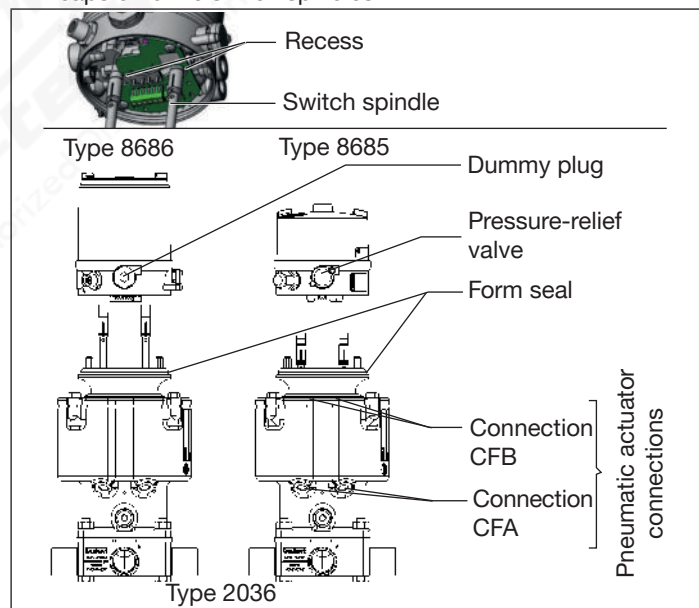

Fig. 10: Assembly of feedback head / control head
These operating instructions describe the installation of feedback head Type 8685 and control head Type 8686 to a valve Type 2036 with an actuator. The information also applies to Type 2036 valves with two actuators or Type 2034 valve clusters when using Robolux components. The information here also applies if the actuator, adapter kit and feedback/control head are in the position shown in “Fig. 10”
- ▶ For actuators with control function B (CFB, NO), the lower end position must be approached before the feedback head / control head is placed on the adaptation body. To do this, pressurize the appropriate pilot air port of the actuator (“Fig. 10”).
- ▶ Make certain the feedback head / control head is correctly positioned relative to the actuator: The dummy plug or pressure-relief valve must be located on the side of the pneumatic connections of the actuator (see “Fig. 10”).